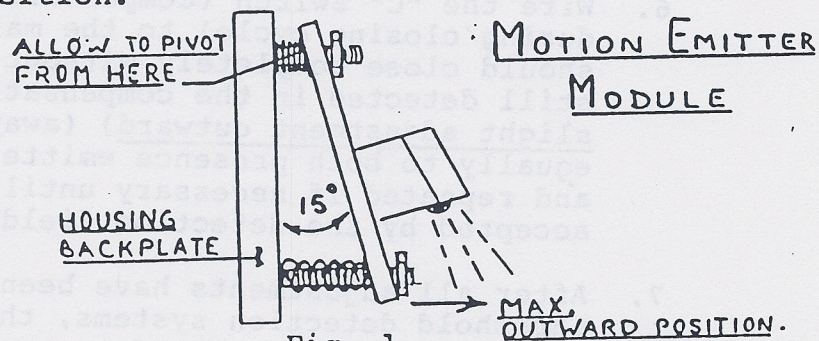

Fig. 1
1. Preadjust each sensor's detector module (C1) until parallel vertically with the housing backplate and at a mid-point position on the three (3) adjustment studs.
3. Preadjust each sensor's motion emitter module (B1b) by rotating (away from doors) to it's maximum (see Fig. 1) outward position.